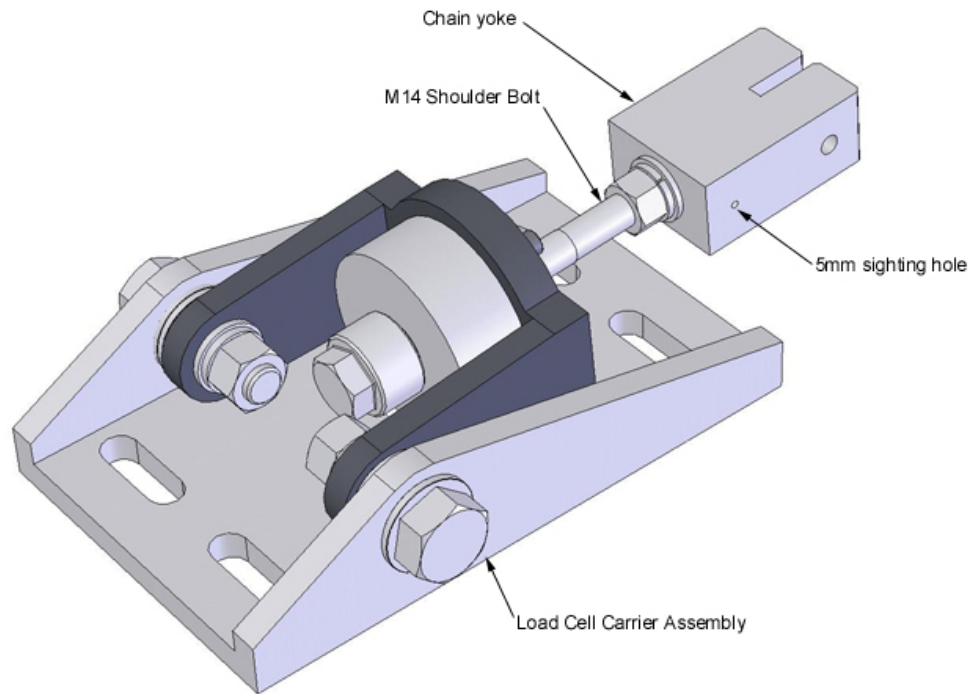
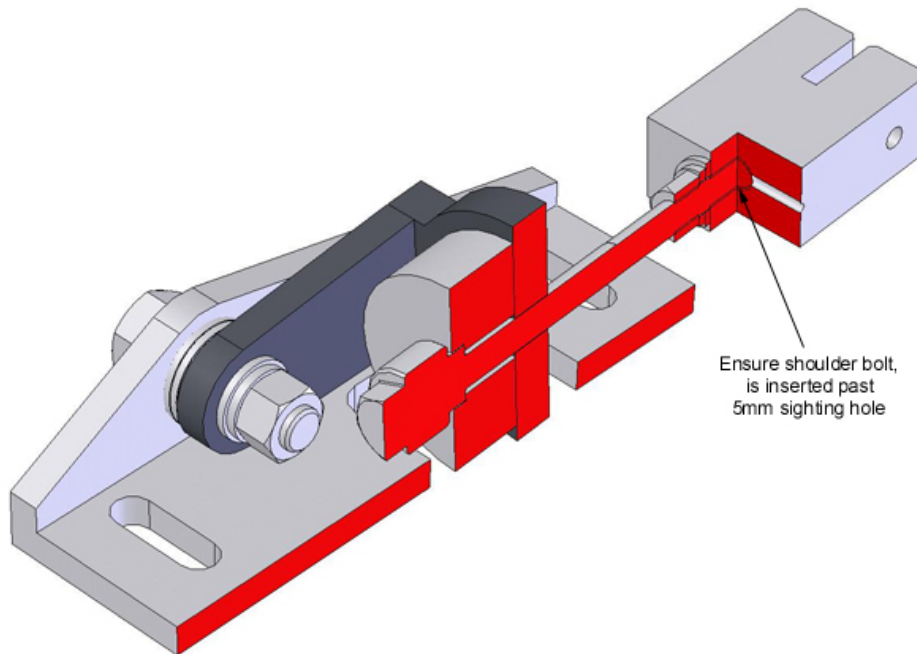

Figure 4.5
Figure 4.6
- d) When attaching chain to Load Cell carrier, ensure that M14 Shoulder Bolt is inserted past 5mm sighting hole in Chain Yoke – see Figure 4.5 and Figure 4.6.